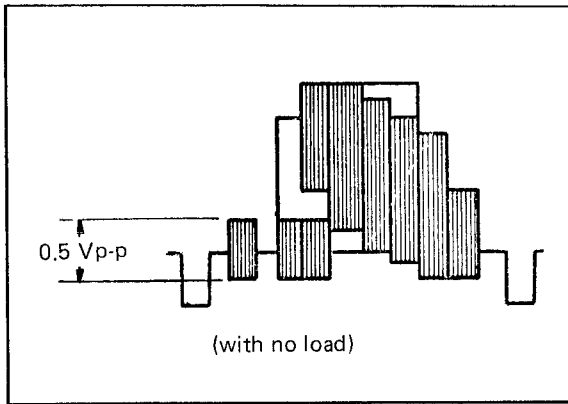

Fig. 6-35 Playback color output level adjustment
3. Adjust R215 (COLOUR OUT) so that the level of colour burst signal is $0.5 V_{p-p}$ (with no load) as shown in Fig. 6-35.